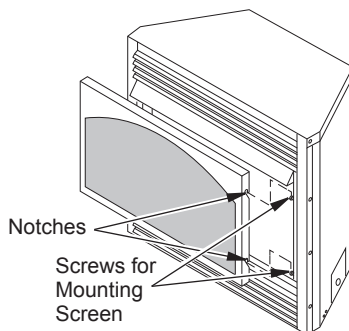

Figure 26 - Installing Fireplace Screen
7. Install fireplace screen by slipping notches of fireplace screen over screws on front of fireplace (see Figure 26, page 18).